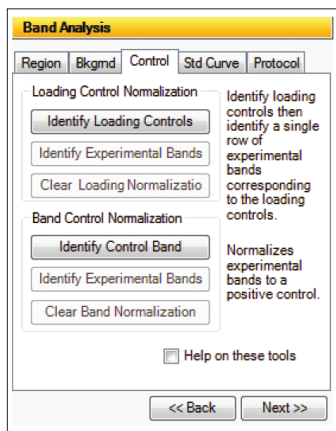

Figure 10. The Band Analysis Module showing the Control Tab.
4. Loading Control Normalization. Once the regions of interest have been defined and background correction has been performed, loading control normalization takes place by choosing the Control tab (Figure 10). Loading control normalization is used to normalize experimental bands to the corresponding loading controls to adjust the data for variations in the amount of sample loaded in each lane.